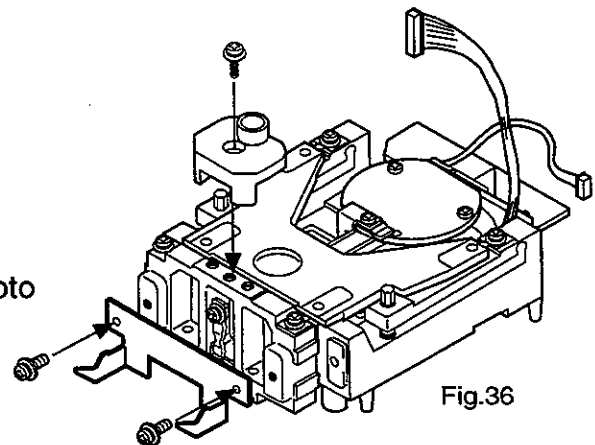

Fig.36
**Step 15. Install the pan support receiver and weight receiving (Fig 36).**